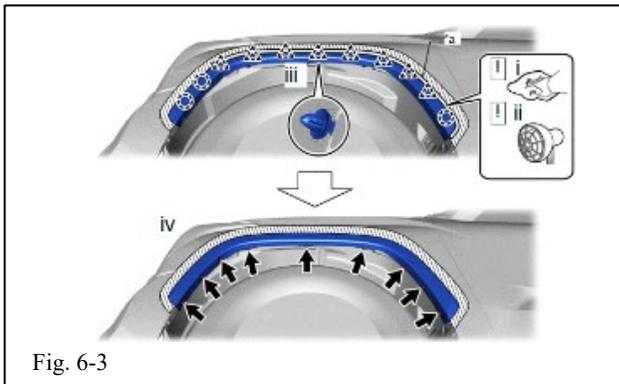

Fig. 6-3
(1) Clean the surface of the front fender sub-assembly (Fig. 6-3).
(2) Using a heat light, heat the front fender sub-assembly and front fender wheel opening molding sub-assembly.
(3) Attach the claw, clip and double-sided tape and install the front fender wheel opening molding sub-assembly (Fig. 6-3).
(4) Install the 9 screws (Fig. 6-3).
(5) Use same procedure for other side.